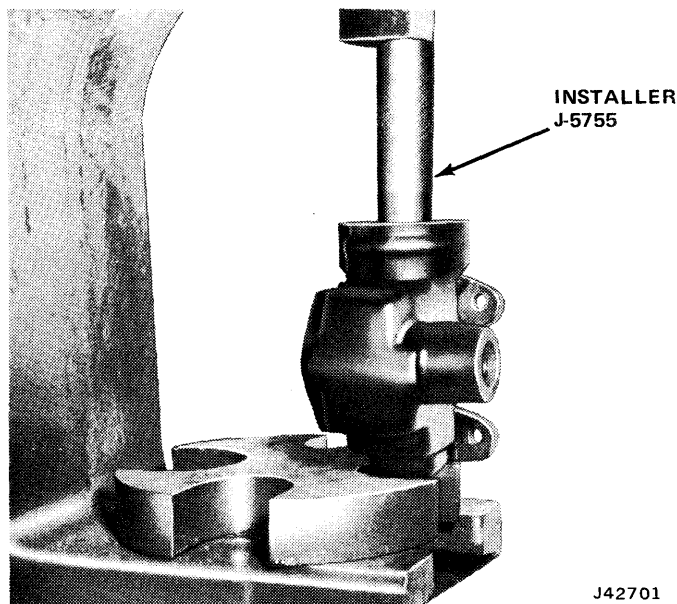

Fig. 11-54 Installing Wormshaft Bearing Cups
(5) Install ball guide clamp over ball guides and install clamp attaching screws and washers.
(6) Rotate wormshaft through complete travel several times to be sure ball bearings in ball nut are installed correctly and that wormshaft rotates freely.
(7) Install replacement wormshaft bearing cups in worm bearing adjuster and housing, if removed, using Bearing Cup Installer J-5755 and arbor press (fig. 11-54).
(8) Install upper bearing on wormshaft and center ball nut on wormshaft.